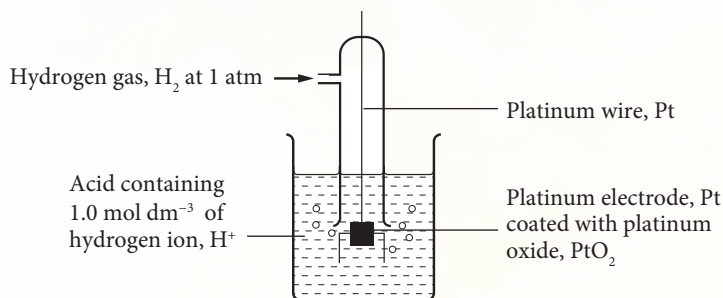

Figure 1.14 Standard hydrogen electrode
- The diagram of standard hydrogen electrode half-cell is shown in Figure 1.14.